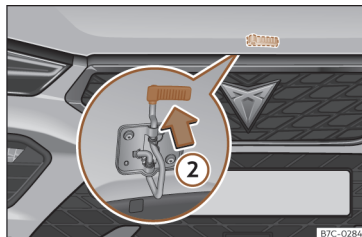

Fig. 196 Cam under the bonnet
- To lift the bonnet, press the release catch under the bonnet upwards»» Fig. 196 ②. The arrester hook under the bonnet is released.